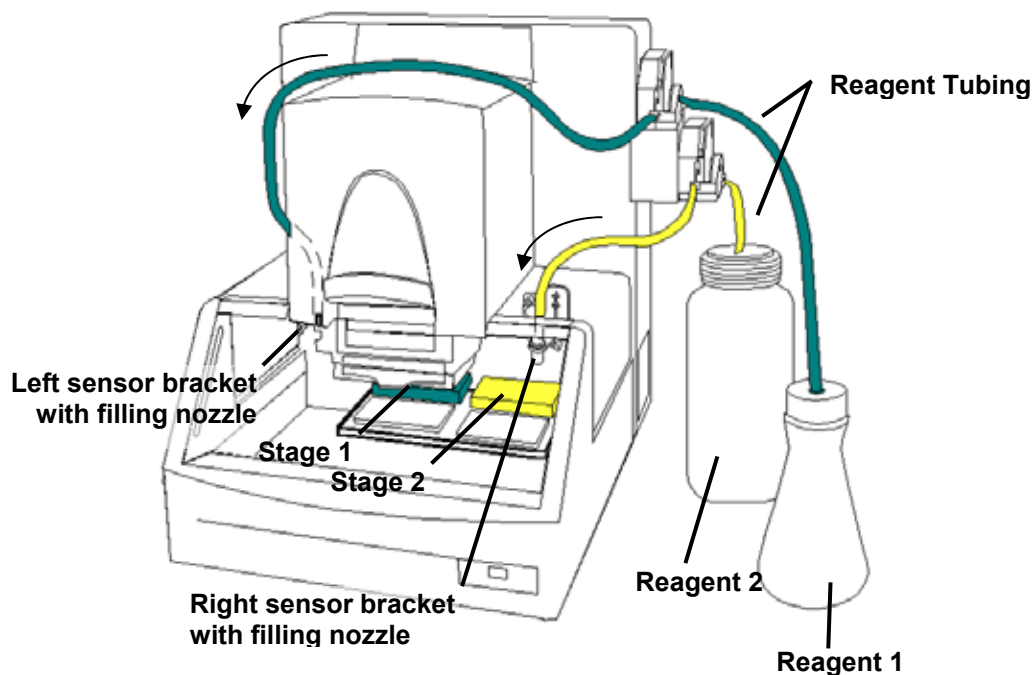

Figure 7-1: Reagent Reservoir Fluid Lines
4. Drape the tubing over the pipettor hood for the left sensor bracket (see Figure 7-1: Reagent Reservoir Fluid Lines), or allow for sufficient slack for the right sensor bracket to prevent pulling or straining of the tubing during pump operation.